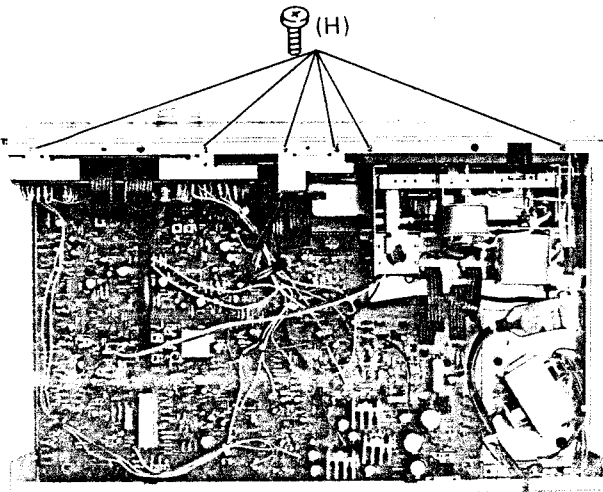

Figure 21
3. Remove thirteen screws (H) and (I). (See Figure 21 and 22)